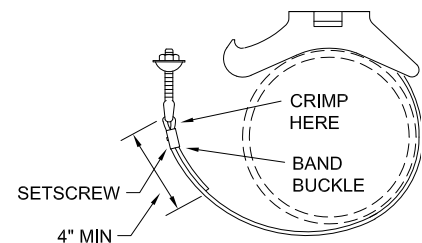

Figure 4
4. With a pair of pliers, crimp* the bend in the band around the clamp screw and slide the band buckle on the free end of the band as close to the screw assembly as possible (Fig. 4). Tighten the setscrew in the band buckle snugly with a 5/32" Allen wrench.